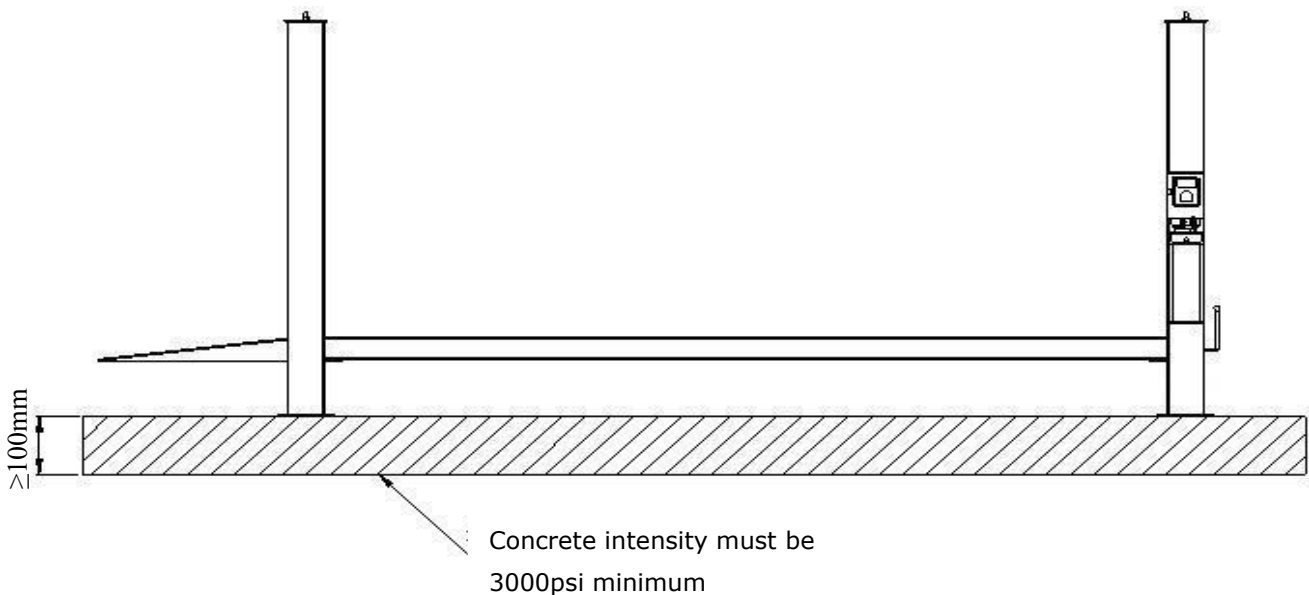

Fig.4
D.SPECIFICATIONS OF CONCRETE (See Fig. 4)